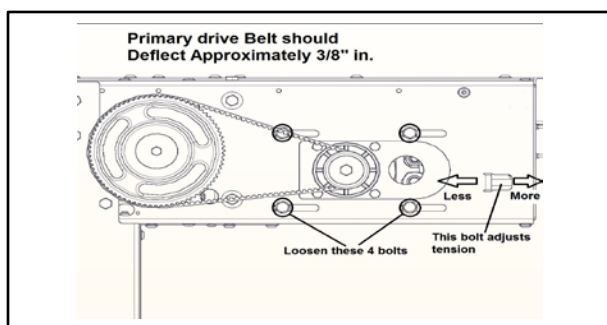

Figure 53
3. Loosen the four hex head screws securing the drive motor assembly to the left drive console. (See Figure 53.)
11. Re-inspect the drive belt to make sure it is properly tensioned. (See Figure 53.)